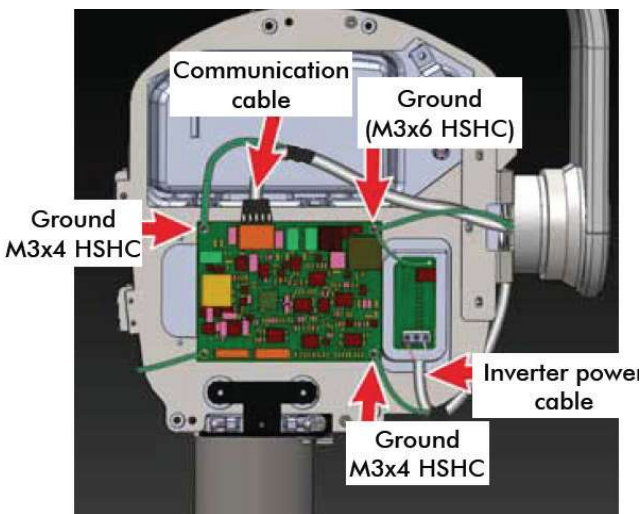

Figure 57
- Press the connector locking tab and pull the cable connector (communication cable) connected to J4 connector of the control board as shown in the Figure 57 .
- Disconnect the INV power cable from the sealing board 3 pin connector -pins 1 & 3 as shown in the Figure 57 (hold the connector firmly by hand while removing) using Jewel screw driver.
- Remove the screws used for GND wire connections for both cables at 3 corners of the Control board using 2.5mm allen key as shown in Figure 57 and put back the screws in its location.